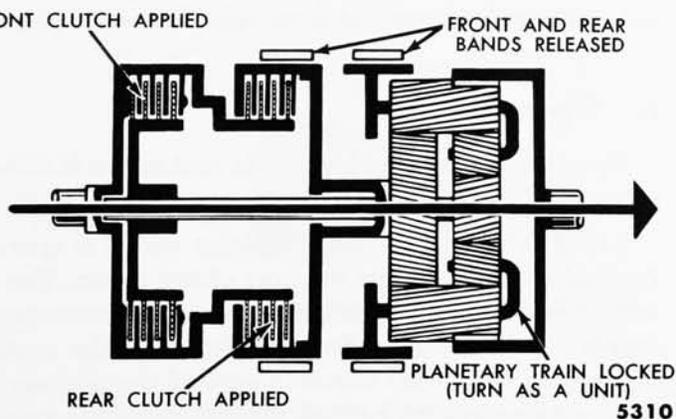

Fig. 11—Power Flow—High Range
(3) **HIGH RANGE.** In high range, the primary and secondary sun gears are locked together and driven as a unit (fig. 11). Therefore, the pinions cannot rotate and the entire planetary train revolves as a unit, which causes the output shaft to rotate at the same speed as the turbine shaft.